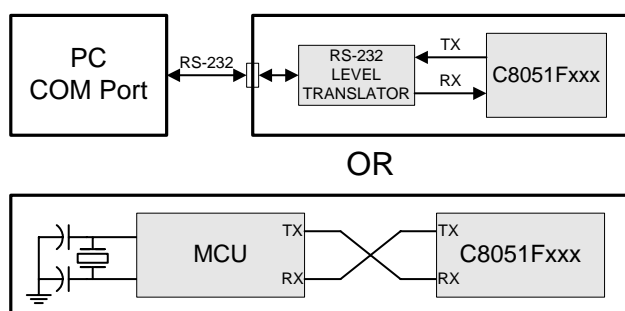

Figure 19.5. Typical UART Interconnect Diagram
In typical UART communications, The transmit (TX) output of one device is connected to the receive (RX) input of the other device, either directly or through a bus transceiver, as shown in Figure 19.5.